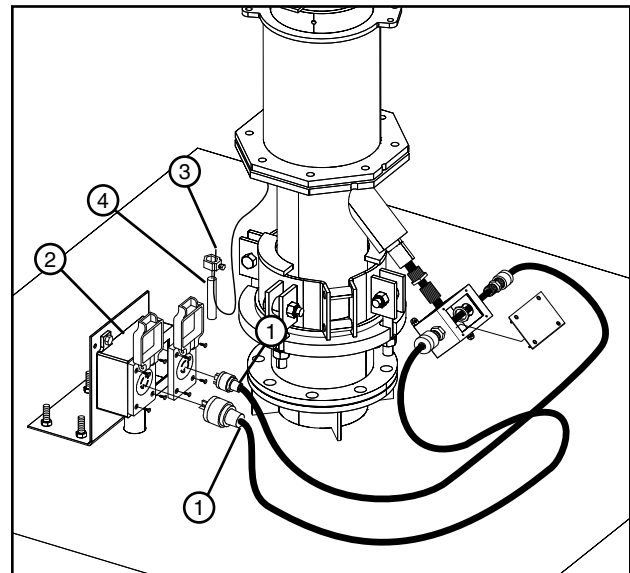

Figure 37-2 1. Electric Cord 2. Power Receptacle 3. Ground Wire 4. Ground Rod
2. Connect the pivot ground wire to the pivot pad ground rod with ground clamp. See figure 37-2.
3. Plug each electric cord into the correct power receptacle. See figure 37-2.